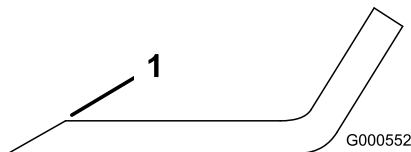

Figure 90
1. Use a file to sharpen the cutting edge at both ends of the blade (Figure 90).
**Note:** If the blade is not balanced, file some metal off the end of the sail area only (Figure 90).